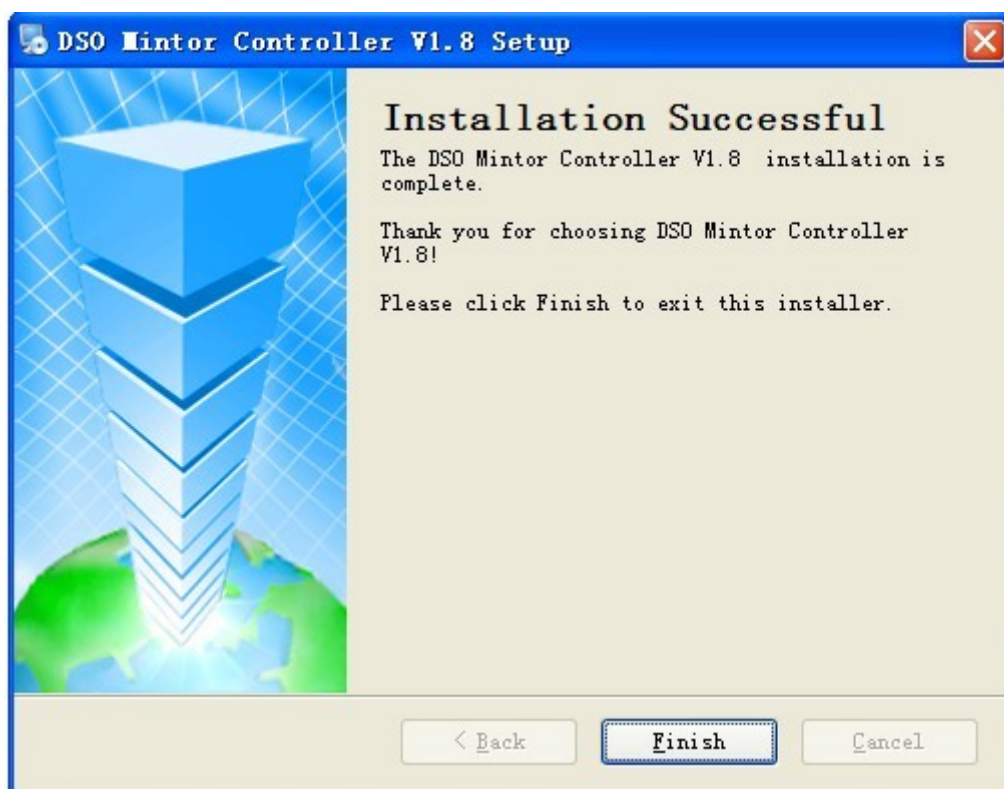

Figure 1-5
Step five : When automatic installation is complete and the box shown in Figure 1-5 pops up, click the **FINISH (F)** button. Your oscilloscope communication and control software is now successfully installed on your computer and ready for use.